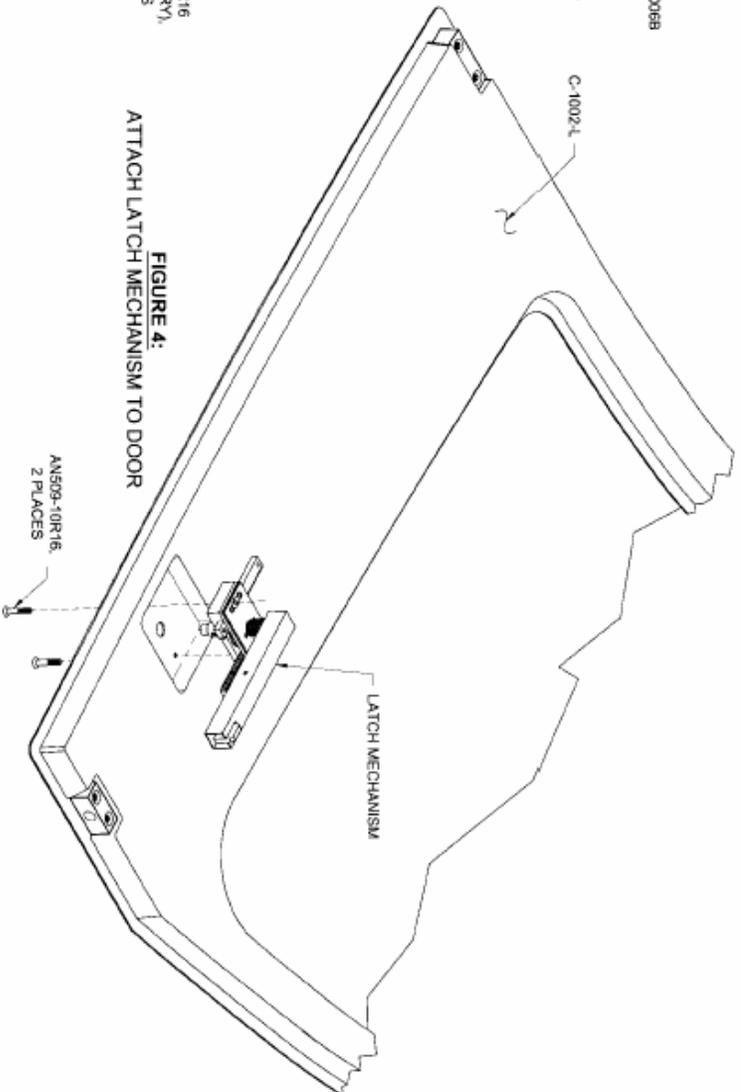

FIGURE 4: ATTACH LATCH MECHANISM TO DOOR
Step 4: Attach the Latch Mechanism to the C-1002-L Door as shown in Figure 4.